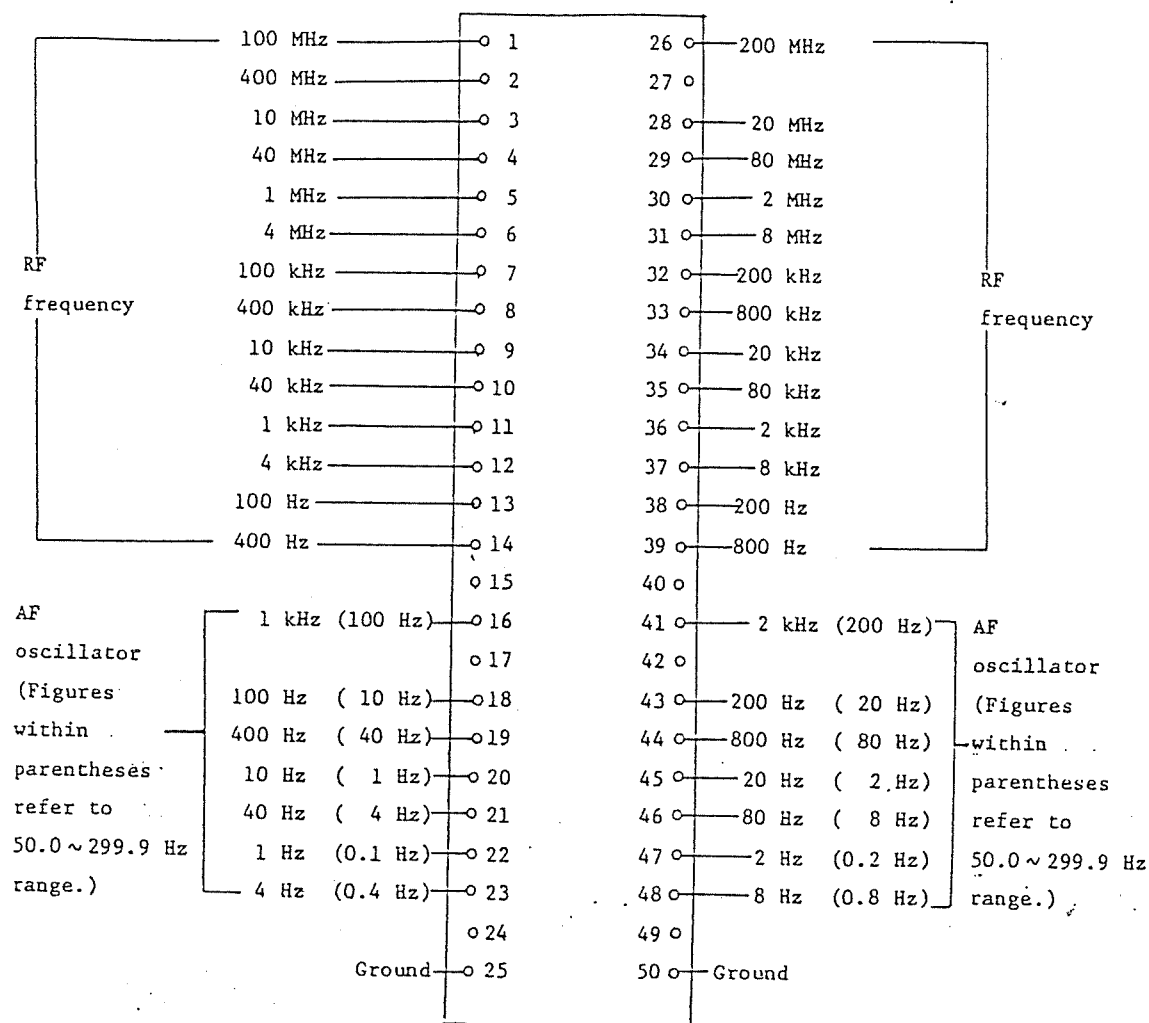

Fig.3-18 Terminal connection for remote control
- (1) Set all digital switches of [RF FREQUENCY 25~520 MHz] of (1) and [AF OSCILLATOR 50~2999 Hz] of (2) to [0], and the remote control operation can be done.
- (2) The connecting connector for remote control is provided on the rear panel. It is 57-40500 of DAIICHI DENSHI KOGYO. The compatible connector is 57-30500 of the same manufacturer. (It is equivalent to that the same designation of ANPHENOL and is interchangeable thereto.)
- (3) For the connector terminal connection vs. signal relation, refer to Fig.3-18.
- (4) The control signal is a binary coded decimal code (BCD) of negative logic TTL level. For each digit of the frequency, it is applied to the terminal of Fig.3-18.
- (5) Numbers 0 to 9, as expressed in BCD of negative logic, are shown in Table 3-4.
(6) For resuming the manual operation mode, remove the connecting connector for remote control.